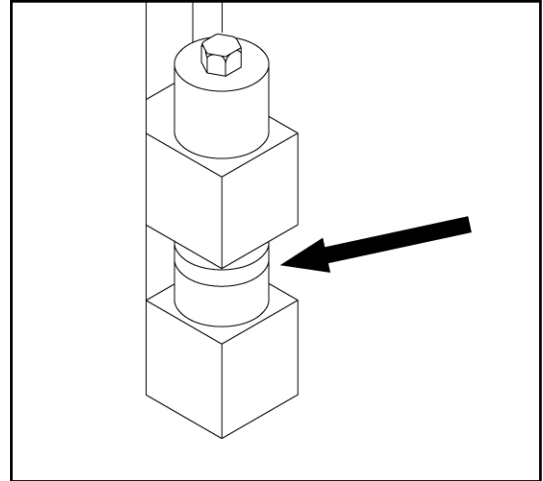

Figure 4.24 2 1/4" [57MM] OF SPACERS
- e. Store spacers on bottom side of bolt for front bolts and left hand rear bolt. For right hand rear bolt, store spacers on top. Tighten bolts at all 4 corners that secure mold throat plate spacers (see figure 4.24).